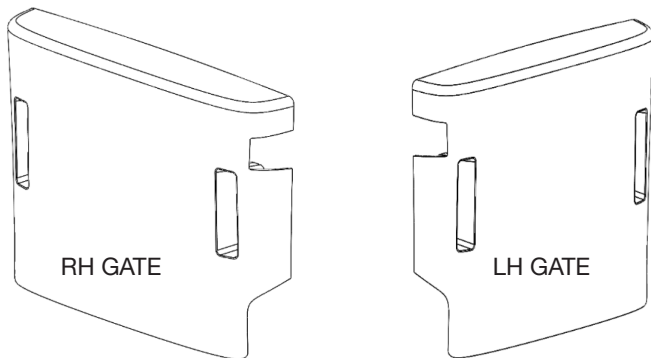

Figure 23. Cutout on Chain Cover
- With Dremel tool or grinder, remove area on the chain cover according to LH or RH installation (Figure 23).